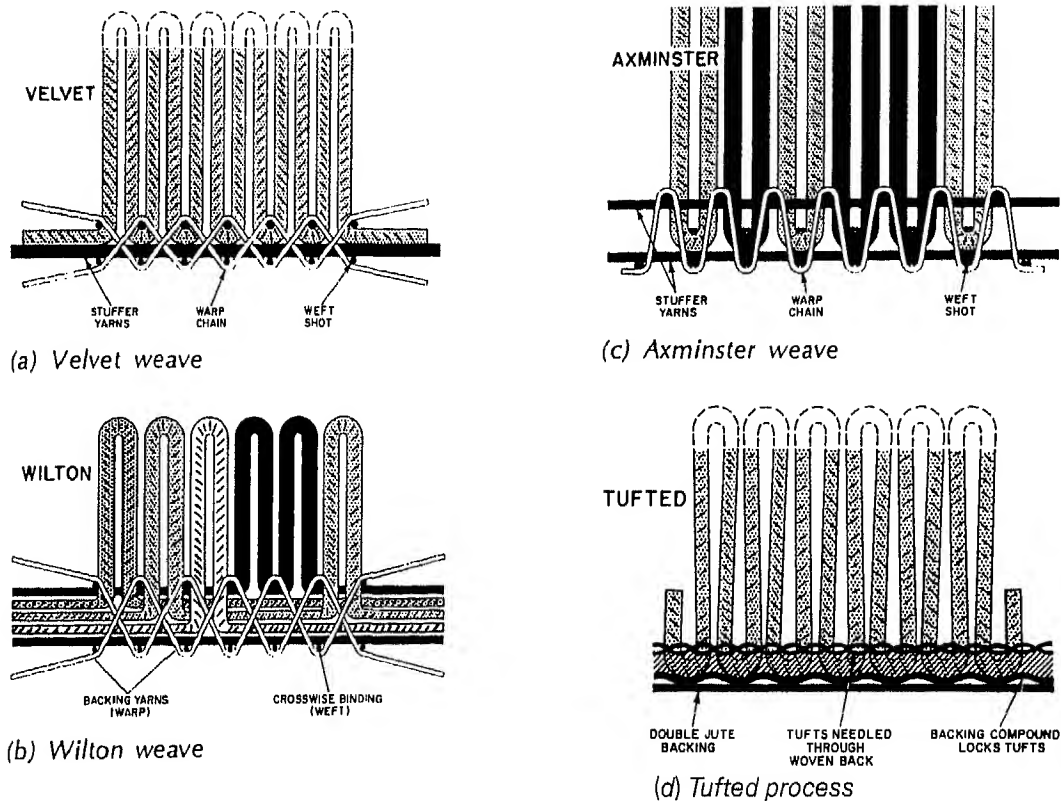

Fig. 14
**Woven carpet** The surface pile and backing of woven carpet are interwoven at the same time, creating a single fabric. Due to the interweaving, which locks all of the yarns together in the single woven fabric, the pile yarns cannot be pulled out. Some carpet weaves presently available are velvet, wilton, and axminster. Velvet is best suited for solid-color carpet; however, tweeds, stripes, and salt-and-pepper effects can be produced on velvet looms. The usual velvet is a solid-color carpet with smooth surface and even pile. Sometimes the pile is cut to produce a plushlike surface [see Fig. 14(a)]. It may also be had in loop pile, or twist.
as well as patterns. The pile is sometimes cut, sometimes left uncut; a combination of cut and uncut may also be obtained. In multicolor wiltons, one color may be seen on the surface pile, while other colors are hidden in the body of the carpet. Embossed and sculptured effects are also made by the wilton looms, and cut and uncut pile can be combined with cut pile for the top level, with loops at other levels. Another variation is to have some pile yarn straight and others twisted [see Fig. 14(b)].
modern and geometric designs [see Fig. 14(c)].
**Tufted carpet** In the tufted process, which was only recently perfected, the tufts are attached to a previously made backing, as compared with the methods described above in which the backing and pile are integral. The tufts are held in place by a heavy coating of latex applied to the backing, which is usually cotton, jute, or kraft cord. By the use of this method, a wide variety of textures is possible. For example, the tufted pile can be made in several levels; it can be cut or uncut; and carved or striated effects can be obtained. The pile can be looped or plush. Tufted carpets are made in multicolor patterns with an increasing number of textural effects and refinements [see Fig. 14(d)].